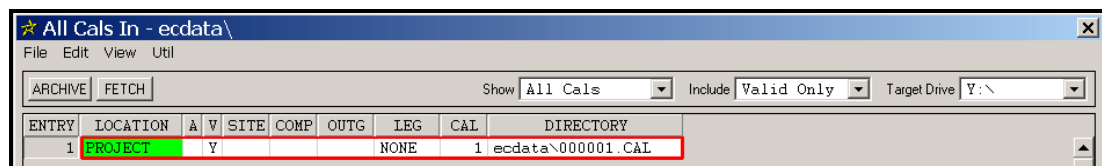

Figure 11-1. Cal Admin Dialog - Archiving/Copying a Cal Group
- STEP 7:** In the ***Target Drive*** list box, select ***x:***, where ***x*** is the letter of the device that contains the transfer media on your computer, i.e., ZIP, JAZ, etc. The ***Cal Admin*** dialog should appear similar to Figure 11-1. The ***Target Drive*** selected in this example is ***y:***.